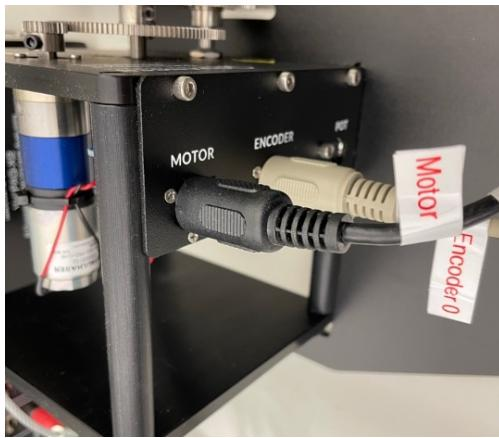

Figure 6: Motor power cable and encoder cable connected to the Rotary Servo.
3. Plug in the encoder cable with the tag ‘Encoder0’ to the Encoder connector of the Rotary Servo (Figure 6).
4. Plug in the motor power cable with the tag ‘Motor’ to the Motor connector of the Rotary Servo (Figure 6).